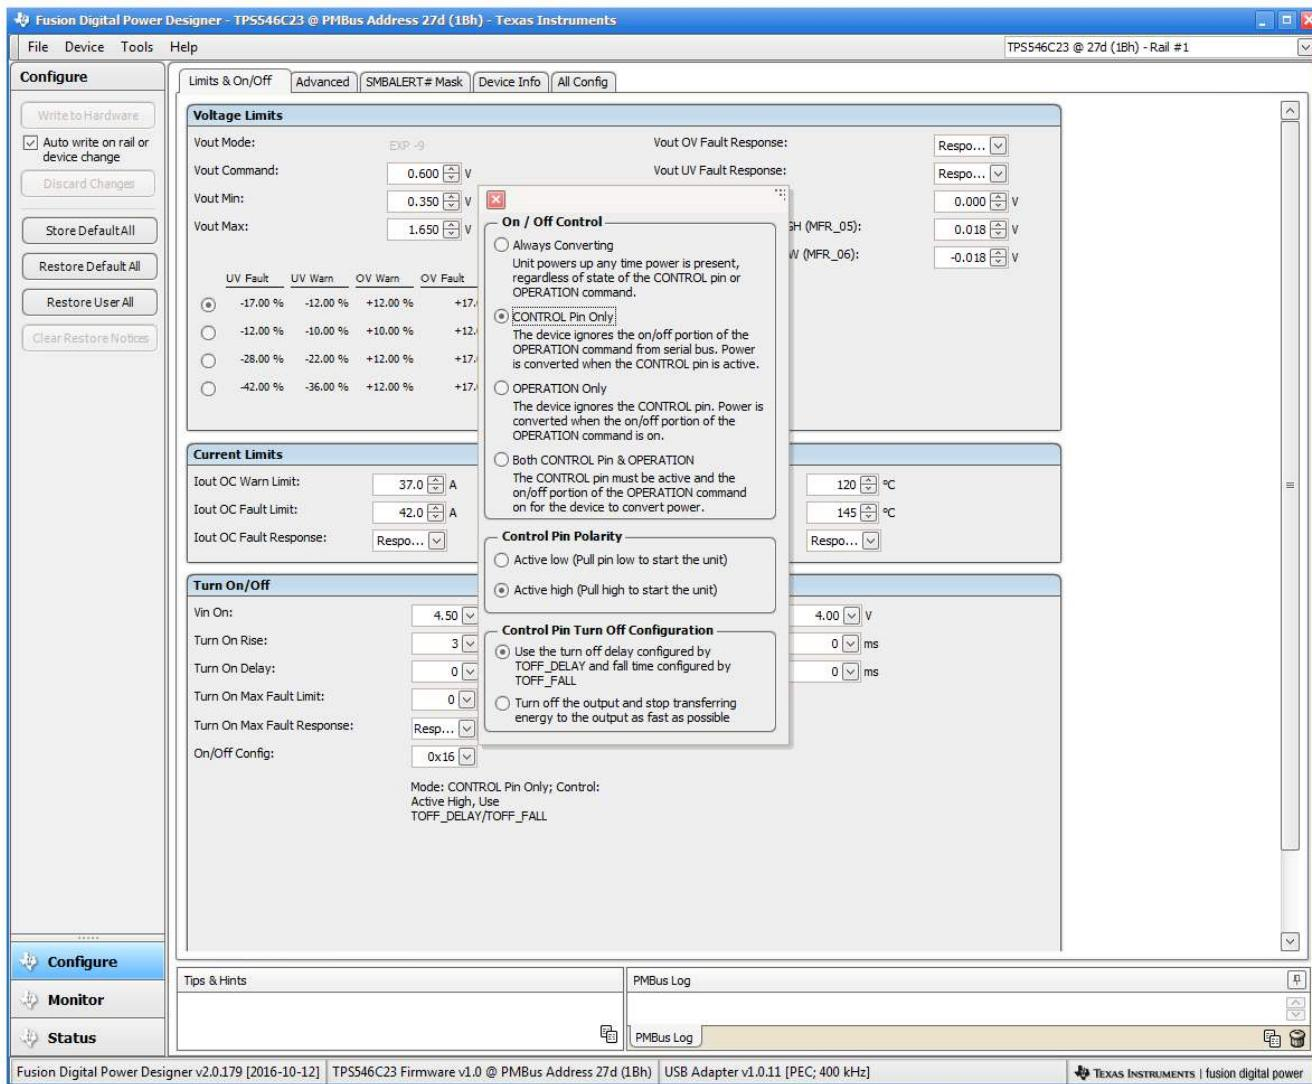

**Figure 10-2. Configure – Limits and On/Off**
- Use the **Limits & On/Off** tab (Figure 10-2) to configure the following: